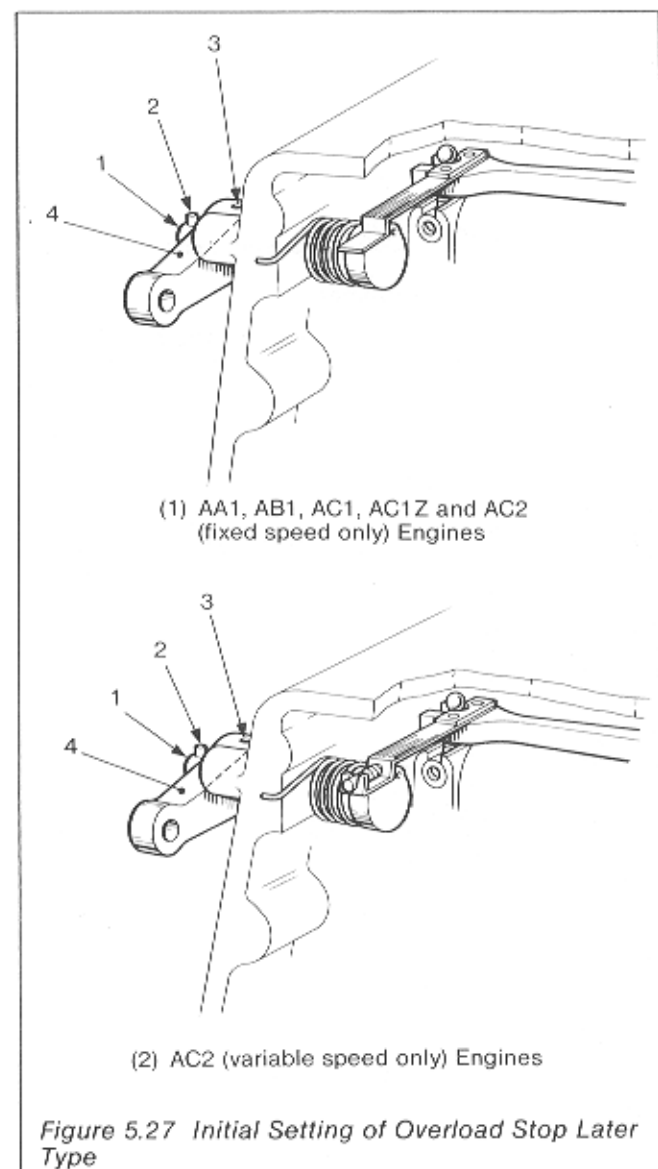

Figure 5.27 Initial Setting of Overload Stop Later Type
### SETTING THE OVERLOAD STOP LATER TYPE (Figure 5.27)
**5.53** To initially set the overload stop turn the spindle (1) to align the pin (2) with the hole (3) in the lever (4) as shown in Figure 5.27.